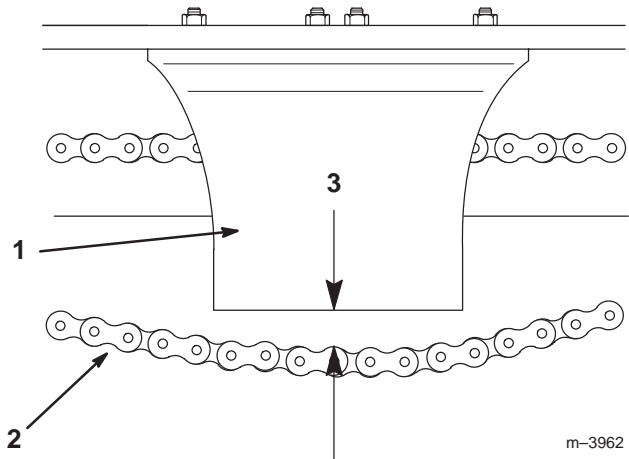

Figure 22
4. Measure the distance between the bottom of the chain guard and the lower chain span (Fig. 22). If the slack in the chain is not within 1–1/2 to 2–1/2 inches (3.8 to 6.35 cm), adjust the tension (refer to Adjusting the Tension).
6. Adjust the chain tensioning bolt until the distance between the bottom of the chain guard and the lower chain span is within 1-1/2 to 2-1/2 inches (3.8 to 6.35 cm) (Fig. 22).